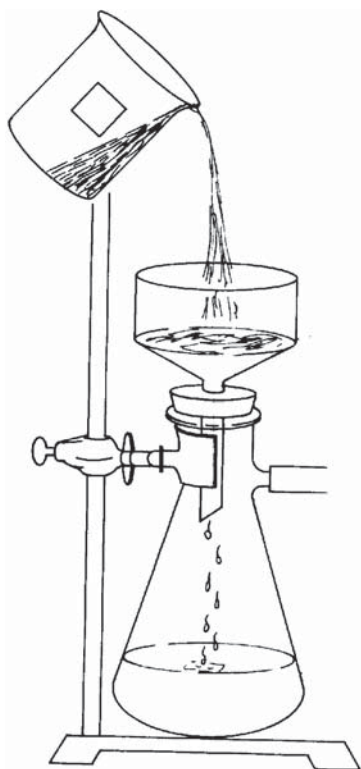

Figure 30.2
5. Collect the crystals by filtering under suction with a Büchner funnel. The assembly is shown in Figure 30.2. (Also see Figure 26.1, p. 319.)